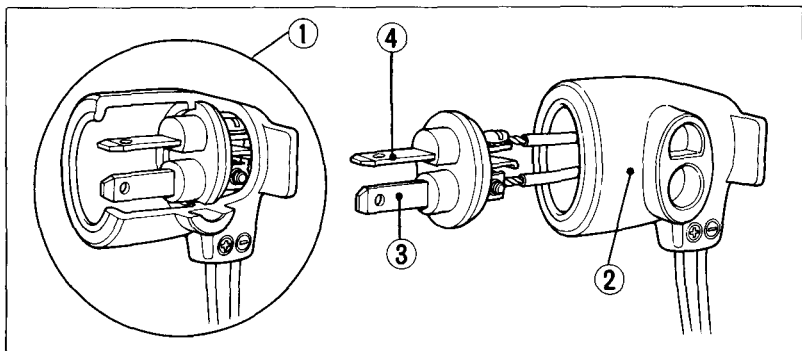

Fig. 2-25
2. Remove the plug cover (2) from the plug (Fig. 2-25).
3. Thread the positive and negative accessory leads through the plug cover as indicated in Fig. 2-25.
4. Attach the leads to the plug (1). Make sure to connect the positive lead (3) and the negative lead (4) to the proper terminals (Fig. 2-25).